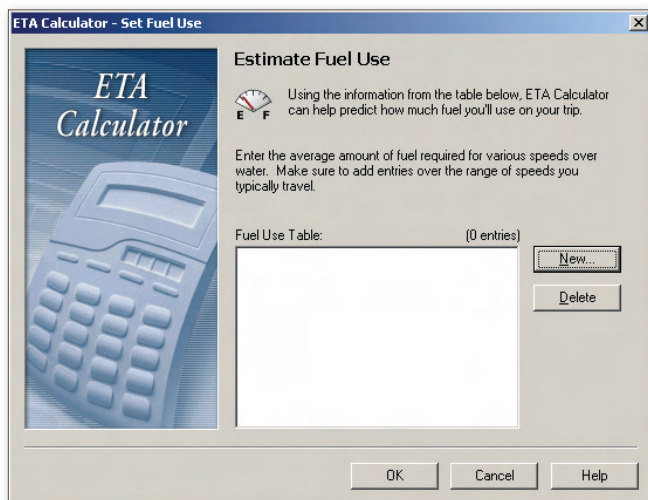

Figure 9.3 - ETA Calculator - Set Fuel Use Dialog Box
3. The **ETA Calculator - Set Fuel Use** dialog box (see **Figure 9.3**) will appear. Click on the **New** button.